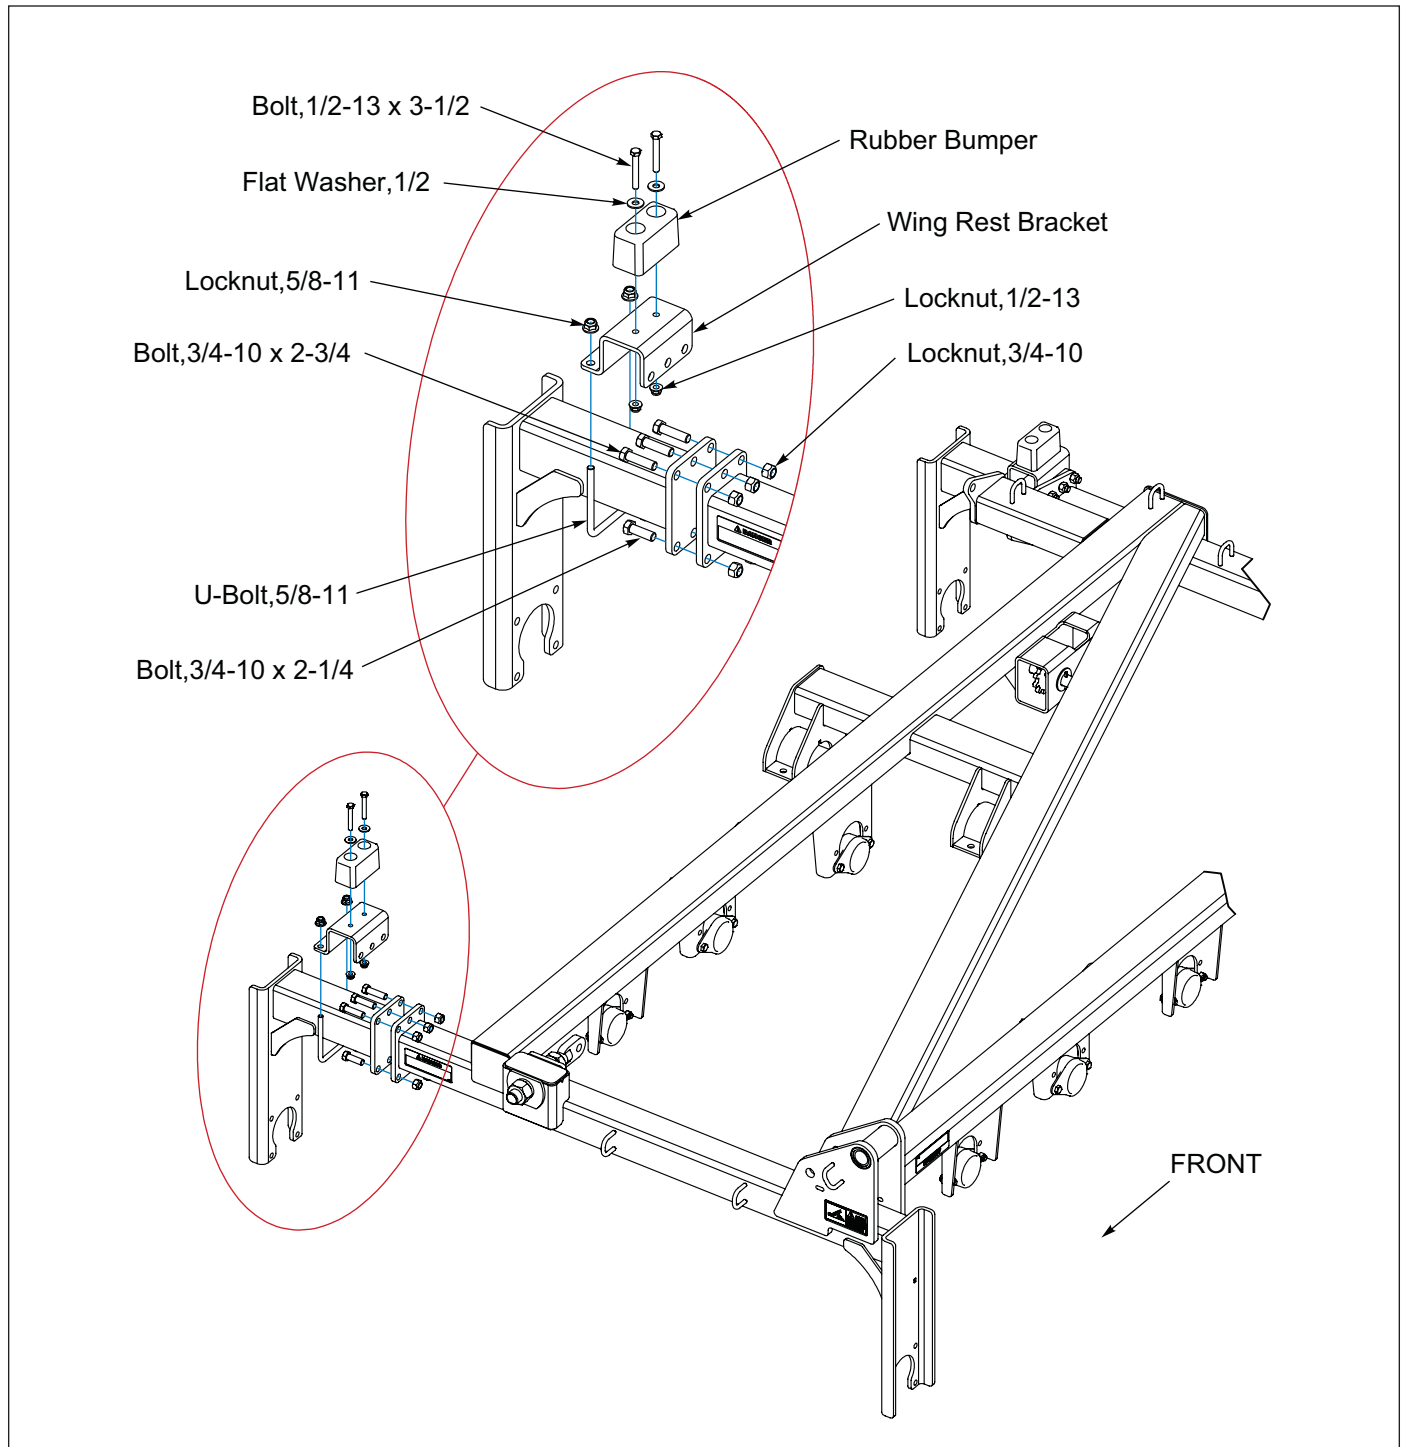

Figure 2-41: Wing Rest and Bearing Hanger
1. Assemble a Rubber Bumper onto each Wing Rest Bracket with 1/2-13 x 3-1/2 Bolts, Flat Washers and Locknuts. **See Figure 2-41.**